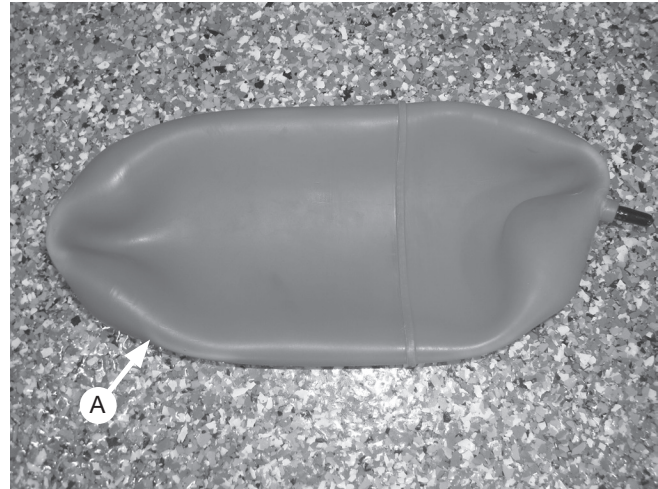

Fig. 2
1. Remove the black plastic cap from the barbed stem on the end of the air spring (A). Exhaust the air from the air spring by rolling it up towards the barbed stem. Replace the cap on the stem to hold its flat shape. Fold the air spring into a “hot dog bun shape” (Fig. 2).